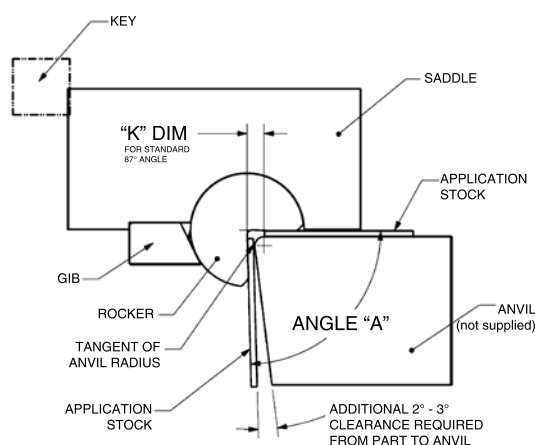

Figure 2
5. Position one piece of application material on landing of anvil and rocker holding face (Fig. 2).
6. Position a second piece of application material between the tangent of anvil radii and bender face of rocker. (Fig. 2)
7. The anvil should contain 2-3° extra clearance beyond the spring-back application requirement (Fig. 2).